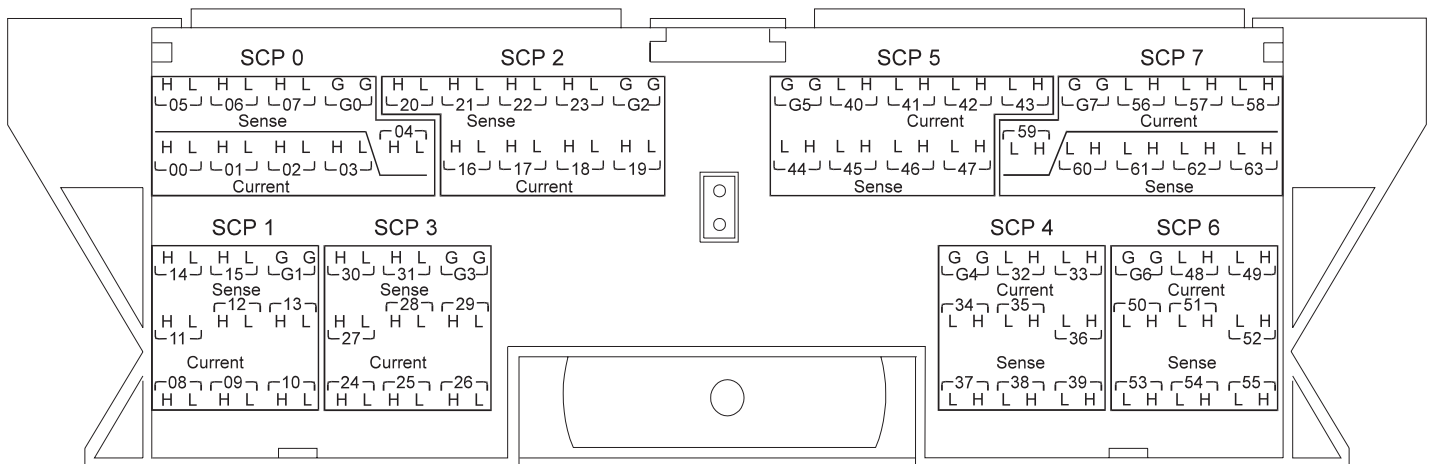

Figure 5. Agilent/HP E1413A/B Terminal Module Connections
- No label sheet is included for Agilent/HP E1413A/B connector module. In this case follow the terminal module connection diagram in Figure 5.